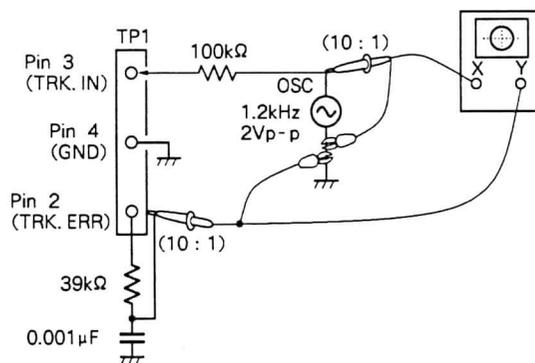

Fig. 7-14
- In the POWER OFF state, connect the oscilloscope and oscillator as shown in Fig. 7-14.